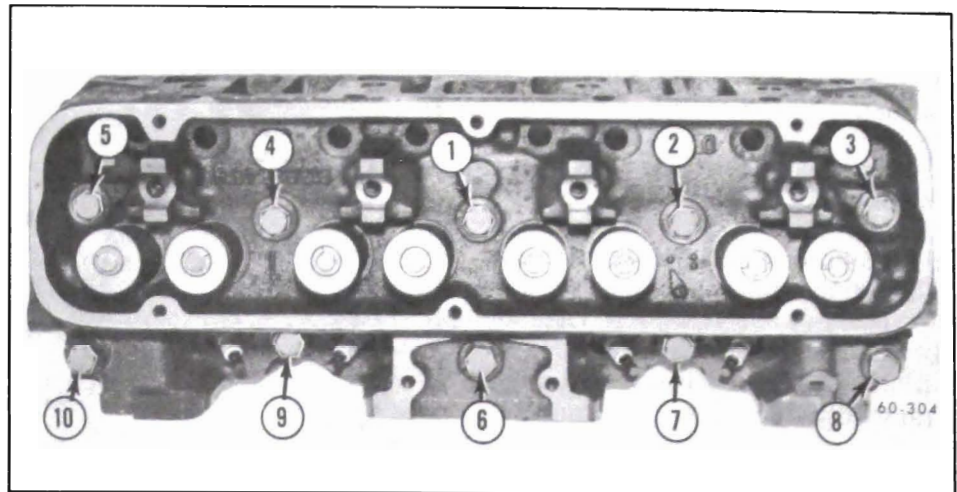

Figure 60-211 Cylinder Head Bolt Tighten Sequence (350 Shown)
5. Install head bolts. Tighten the bolts a little at a time about three times around in the sequence shown in Figure 60-211. Give bolts a final torque in the same sequence. Torque to 73 lb.ft. (350 Cu In.) and 100 lb. ft. (400 and 430 Cu. In.).